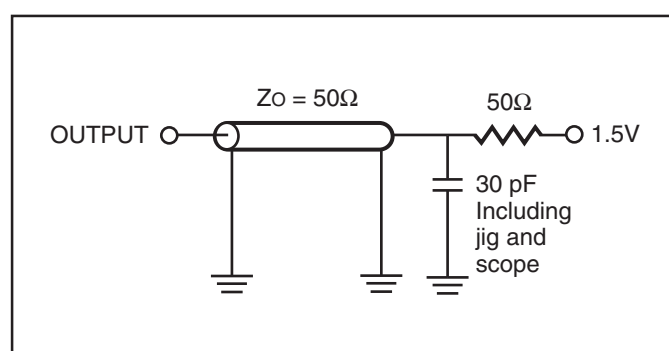

Figure 1.
| Output Load                                                  | See Figures 1 and 2   | See Figures 1 and 2   |
- Test conditions assume signal transition times of 5 ns or less, timing reference levels of 0.9V/1.5V, input pulse levels of 0.4 to  $V_{DD}-0.2V$ /0.4V to  $V_{DD}-0.3V$  and output loading specified in Figure 1.
- Test conditions assume signal transition times of 5 ns or less, timing reference levels of 0.9V/1.5V, input pulse levels of 0.4 to VDD-0.2V/0.4V to VDD-0.3V and output loading specified in Figure 1.